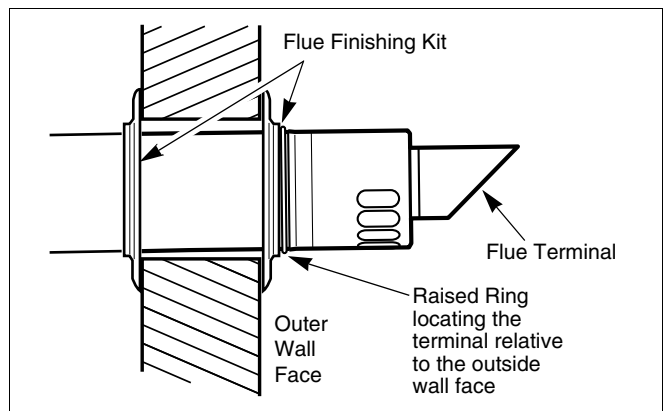

Fig. 16 Flue terminal position
- Mark of the lengths shown onto the ducts and cut the length. The cuts must be square and free from burrs. Terminal assembly outer (air) duct - L-70 mm, inner (flue) duct - L-50 mm. The measurement is made from the ridge at the terminal indicating the outer face of the wall. Refer to figure 16. Extension air duct - L-70 mm, flue duct - L-50 mm. The measurement is from the formed end.